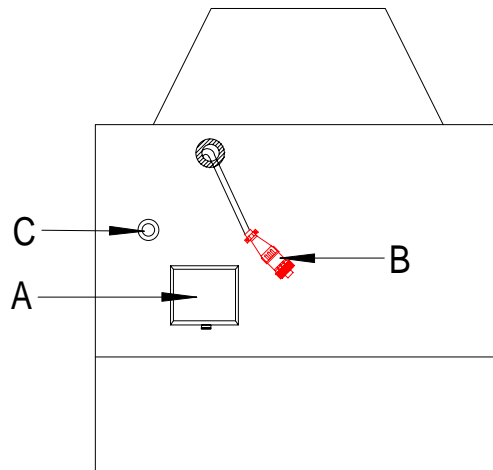

Figure 3, Dynamometer Connections
7. Route the air supply hose (a flexible high pressure hose is recommended) from the shop air source, through the 2" conduit as indicated in the pit diagrams, to the 1/4" NPT Fitting (C) as shown in Figure 3.